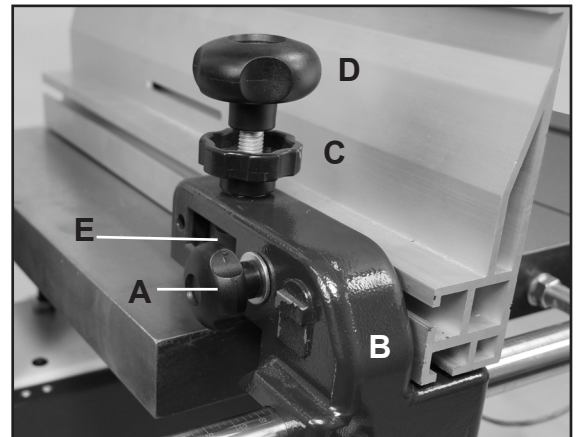

Figure 25
1. Loosen the side Handle (#7F, Fig. 25, A) which holds the rip fence against the Fence Carrier (#9F, B).
2. Loosen the Locking Knob (#2F, Fig. 25, C).